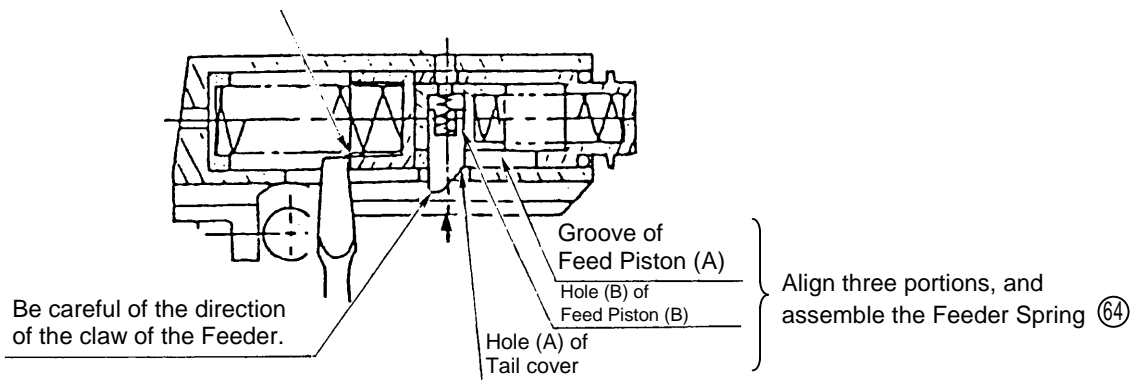

Fig. 23 Reassembly of Feeder and Related Parts
- To reassemble the Feeder ⑥⑤ and the Feeder Spring ⑥④ after pushing Feed Piston (A) ⑤⑧, Feed Piston (B) ⑤⑥ and their related parts into the feed piston chamber of the Tail Cover ③④, carry out their assembly by pushing them into Hole (B) of Feed Piston (B) through Hole (A) of the Tail Cover (refer to Fig. 23). At this time, be very careful to ensure that the claw portion of the Feeder is mounted in the proper direction.
- On completion of assembly, push the Feeder ⑥⑤ with a finger and confirm that it returns smoothly to its original position.